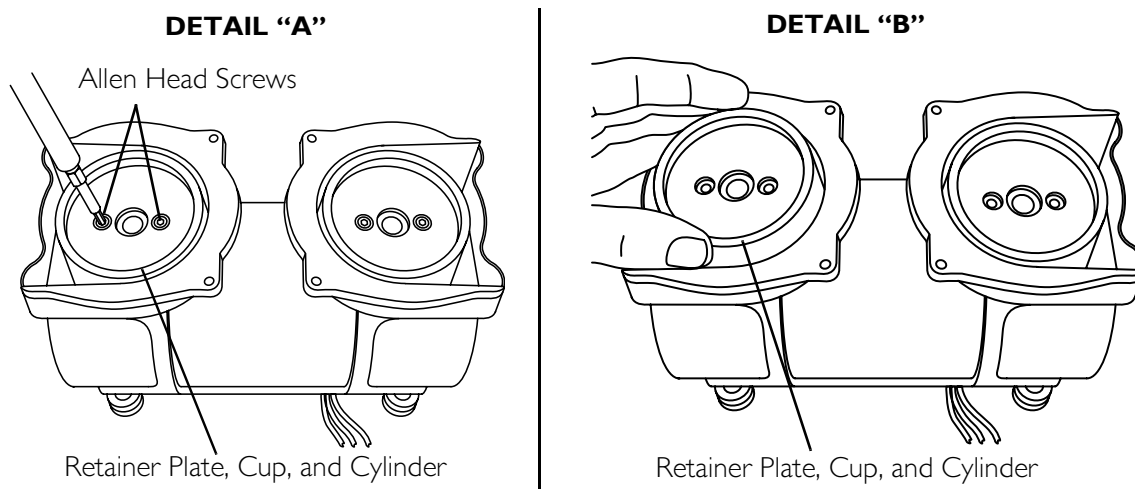
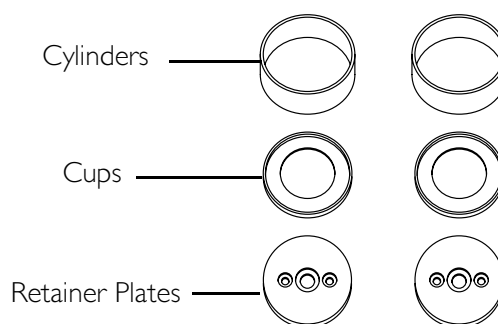
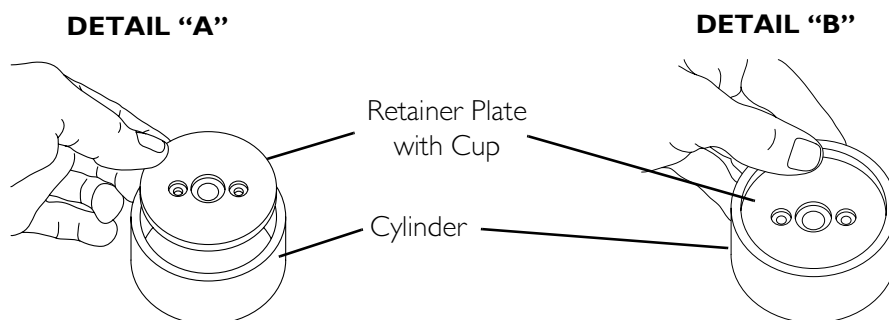
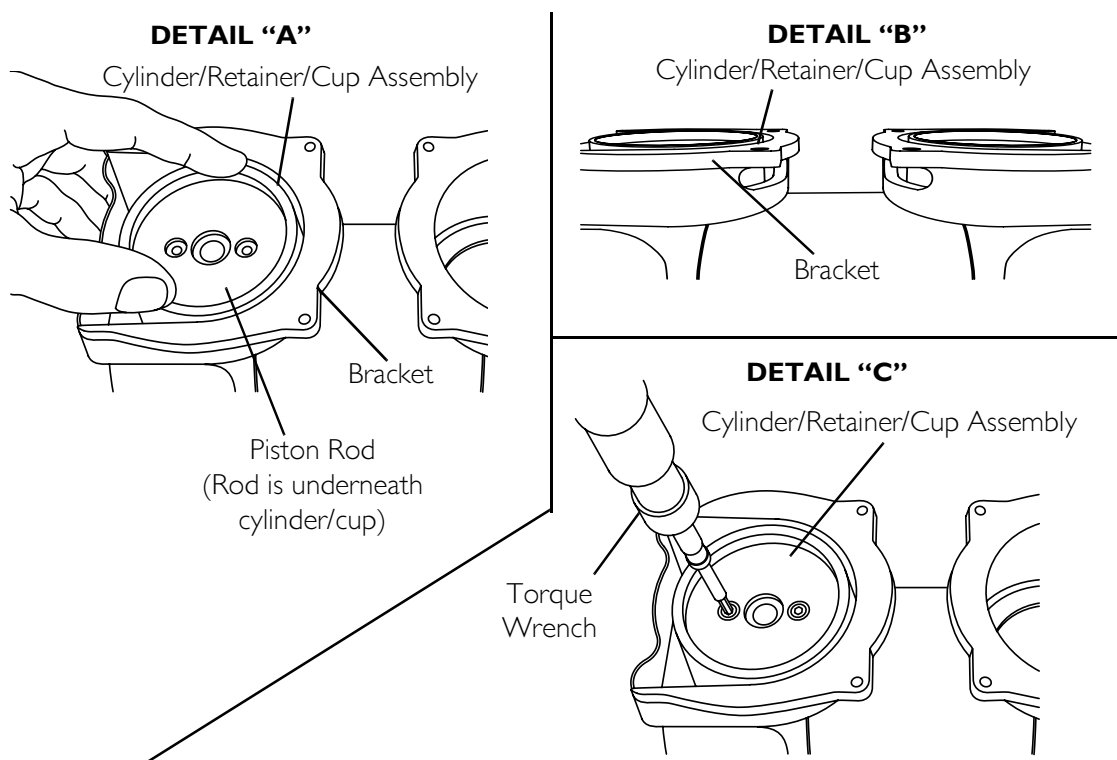

FIGURE 7.18 Removing the Existing Retainer Plate, Cups and Cylinders
FIGURE 7.19 Identifying the New Retainer Plate, Cups and Cylinders
FIGURE 7.20 Installing the New Retainer Plates, Cups and Cylinders
FIGURE 7.21 Installing the New the Cylinder onto the Compressor
NOTE: For this procedure, refer to FIGURE 7.18 and FIGURE 7.19 on page 50.
NOTE: The cylinder, cup and retainer plate should all come off together. Refer to FIGURE 7.19 for individual illustrations of cylinder, cup and retainer plate.
NOTE: For this procedure, refer to FIGURE 7.19, FIGURE 7.20, and FIGURE 7.21 on page 51.
1. Find the new cylinders and cups in the repair kit (FIGURE 7.19).
2. Place the new retainer plate into the new cup (Detail “A” of FIGURE 7.20).
4. Place the new cylinder/retainer/cup assembly over the piston rod (Detail “A” of FIGURE 7.21).
5. When properly installed, the cylinders extend slightly above the bracket surfaces (Detail “B” of FIGURE 7.21).
6. Secure the new cylinder/retainer/cup assembly to the compressor piston with the new retainer plate screws (Detail “C” of FIGURE 7.21).